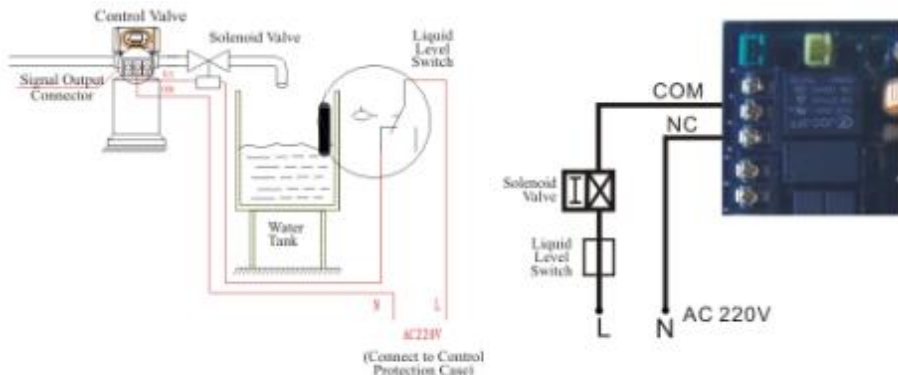

Figure3-1 Wring of Solenoid Valve on Outlet
① Solenoid valve on outlet controls water level in brine tank. Instruction: If system strictly require no hard water flow from outlet in regeneration cycle(Mainly for no hard water flow out when valve is switching or valve in backwash or brine drawing positions), a solenoid valve could be installed on outlet, the wiring refer to Figure 3-1.